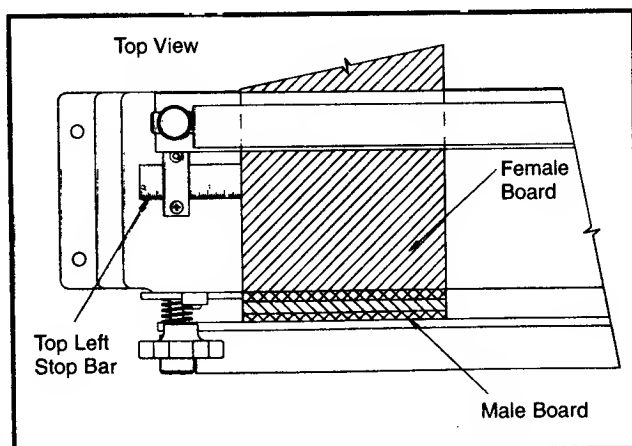

Fig. 46
1. Before removing male board from OMNIJIG®, set top left stop bar (Fig. 46) so that edge of female board will line up with edge of male board.